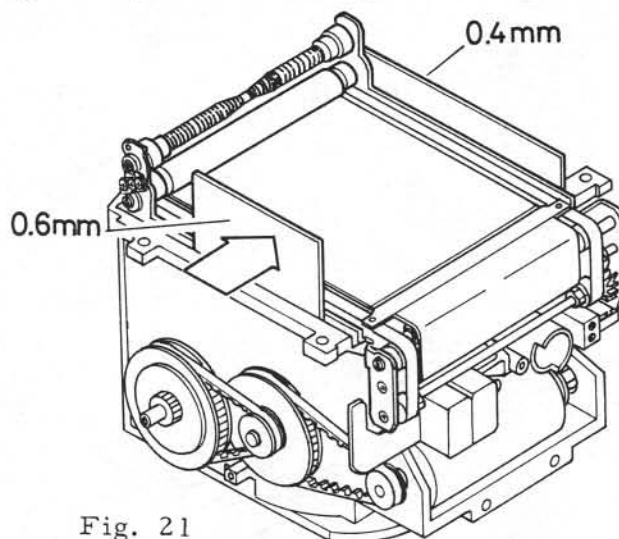

Fig. 21
- 16-6 Insert E000 installing jig 0.6mm and 0.4mm (24400J-E000-A3) into the specified places as shown in Fig. 21, then push 0.6mm jig toward the wind mech. block side. Refer to Fig. 21.